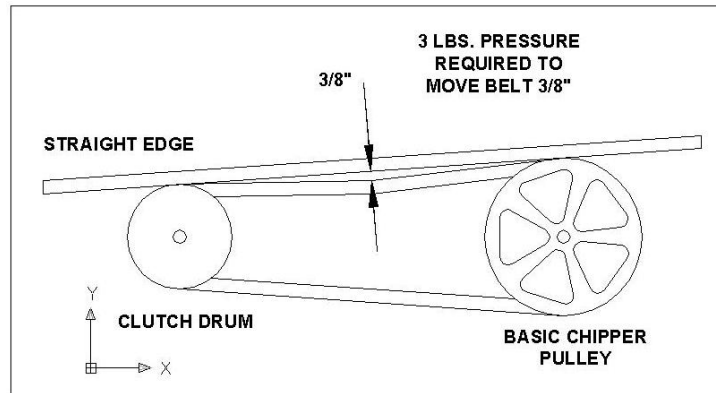

Figure 1
5. Care must be exercised when sharpening the knife to maintain the correct bevel and a straight edge. Refer to sharpening directions. When you install a knife, the clearance between the knife and wear plate must be checked and set. This clearance or gap should be set to 1/16" (see figure 1).
The belt on your chipper should deflect 3/8" under three pounds of pressure as shown in figure 1 below. If it doesn't, adjust per the following directions.
- Tighten or loosen the nut on the belt tensioner until you have the correct tension as shown in figure 1.